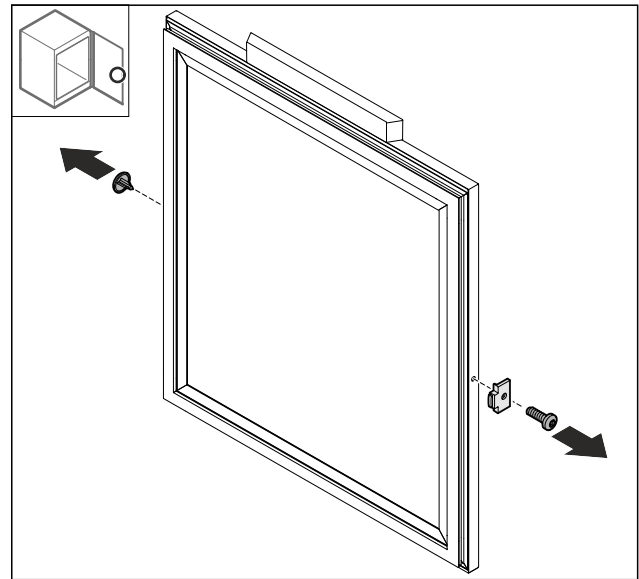

Fig. 45
- ▶ Remove the Fig. 45 (1) cover.
- ▶ Pull off the door stopper Fig. 45 (2).